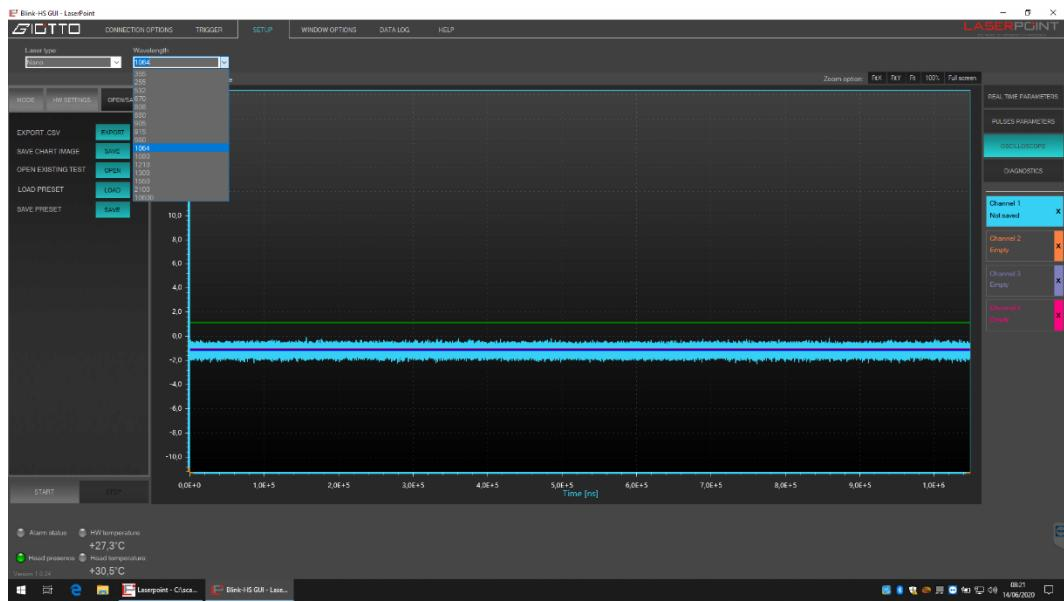

Figure 37
2. User can select up to 16 different wavelength, a corresponding correction factor is applied to measurements (depending on wavelength calibration selection at purchase order) (**fig.37**)